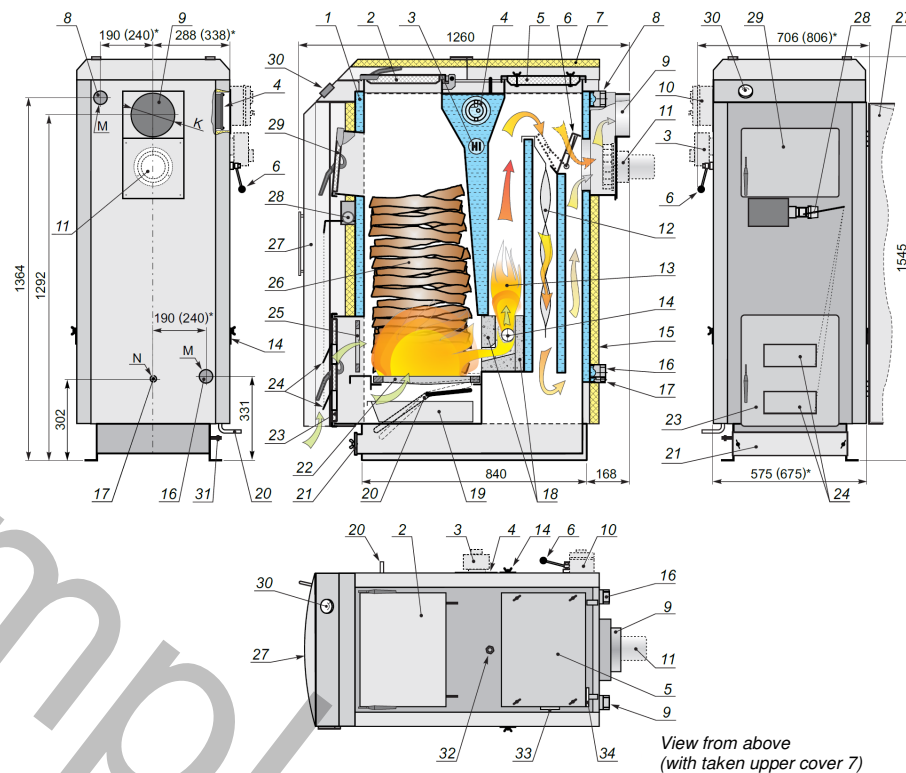

Fig. 1.
Boiler body (1) (see fig. 1), welded from steel sheets has water spaces where water is heated. Body's internal part walls are 6 mm thick, external part 3 mm thick. Body is covered with decorative shields with heat insulation (15). Front part is closed with decorative door (27).
Sealing parts from glass fibre; cast iron firegrate (21) (see fig. 1) and doors (24); heat-proof concrete parts (18) (see fig. 1 and 5) can become worn, burn out, disintegrate while in use.